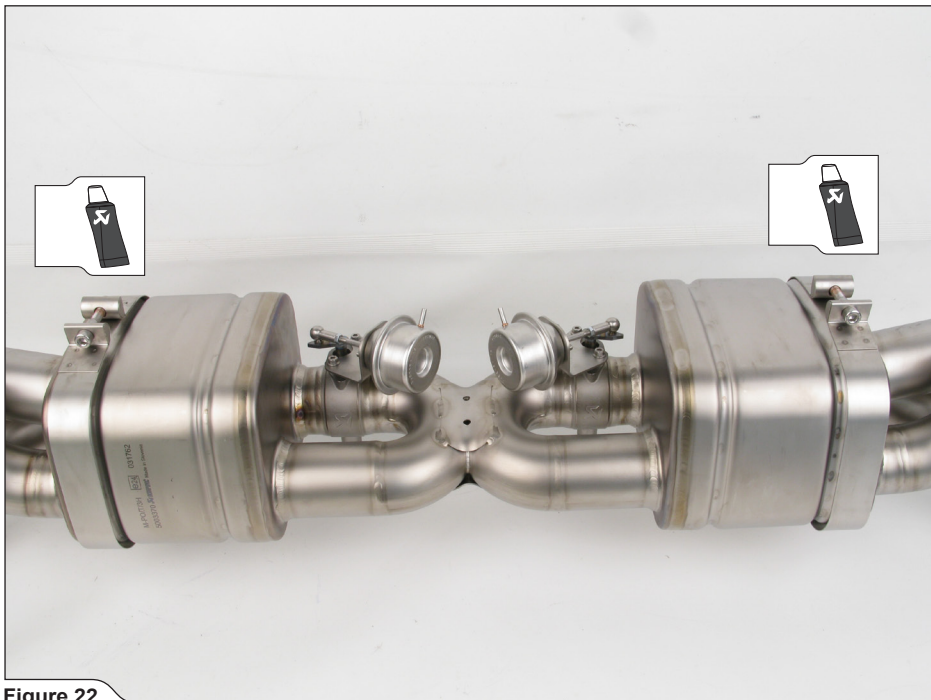

Figure 22
5. Correctly orient the central muffler's clamps and carefully slide them onto the muffler (Figure 22).